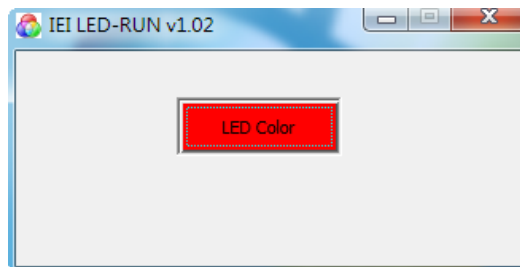

Figure 2-15: IEI LED RUN Software
Step 2: Double click the **LED-RUN.exe** icon  to open the LED RUN software, as shown in **Figure 2-15**.